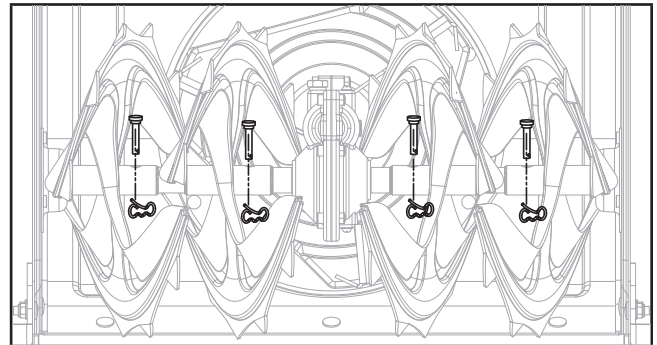
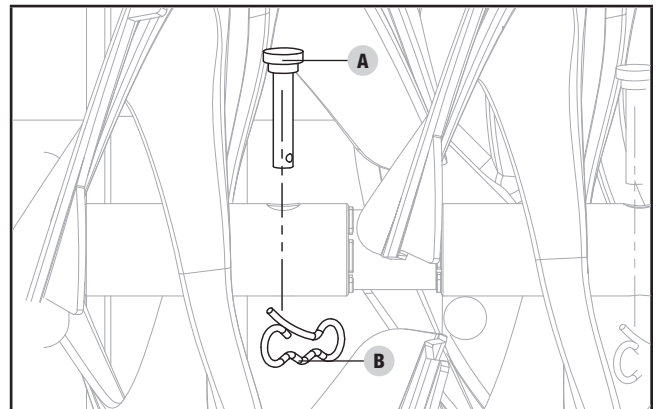

Figure 19A
Figure 19B
The auger housing is shown as Fig. 19A. The augers are secured to the auger drive with shear pins (A) and clips (B). If the auger should strike a foreign object or ice jam, the snowblower is designed so that the lock pins may shear. If the augers will not turn, check to see if the lock pins have sheared (Fig. 19B). Replace shear pin(s) and clip(s) as necessary.